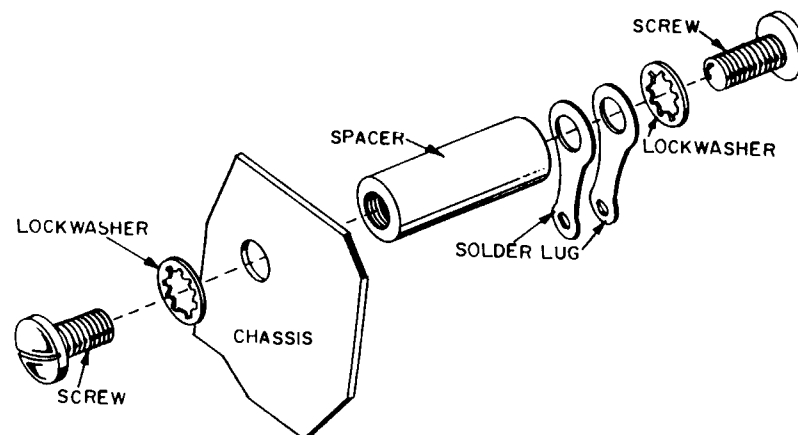

FIGURE 8. SPACER MOUNTING
- A ceramic spacer, two #8 solder lugs, two 6-32 x $\frac{1}{4}$ " screws and lockwashers. Fasten the solder lugs to the spacer as shown in Figure 8. Fasten the spacer to the top of the chassis near the rear edge as shown in Figure 2.